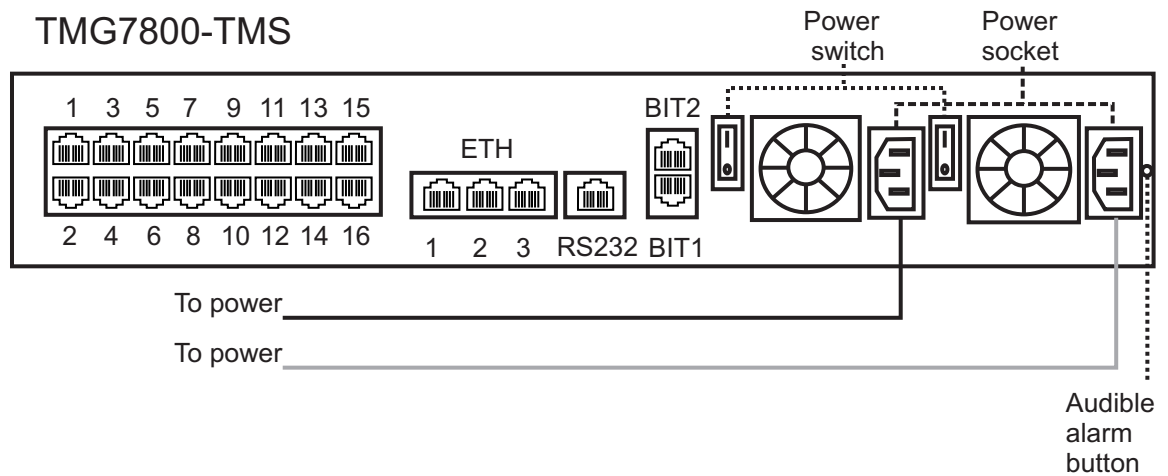

Figure 2.15 AC Power Connections
1. Connect the first power connector of each unit to the first power source. See Figure 2.15.